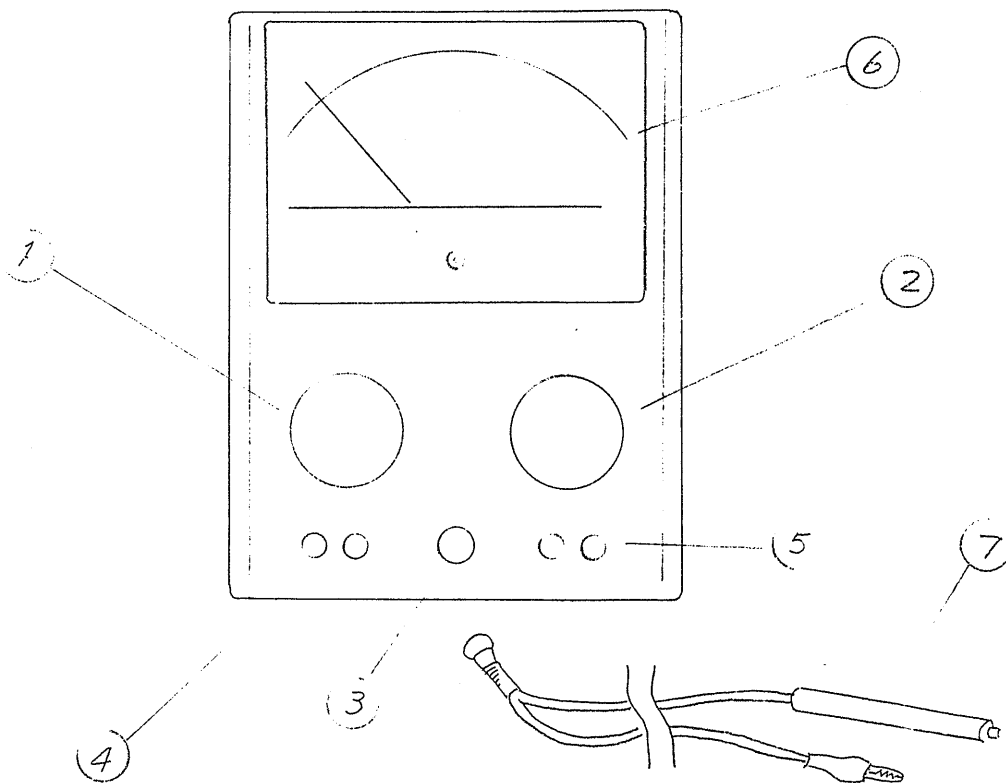

Fig 3-1
3.1 Explanation of panel (see Fig 3-1 for reference)